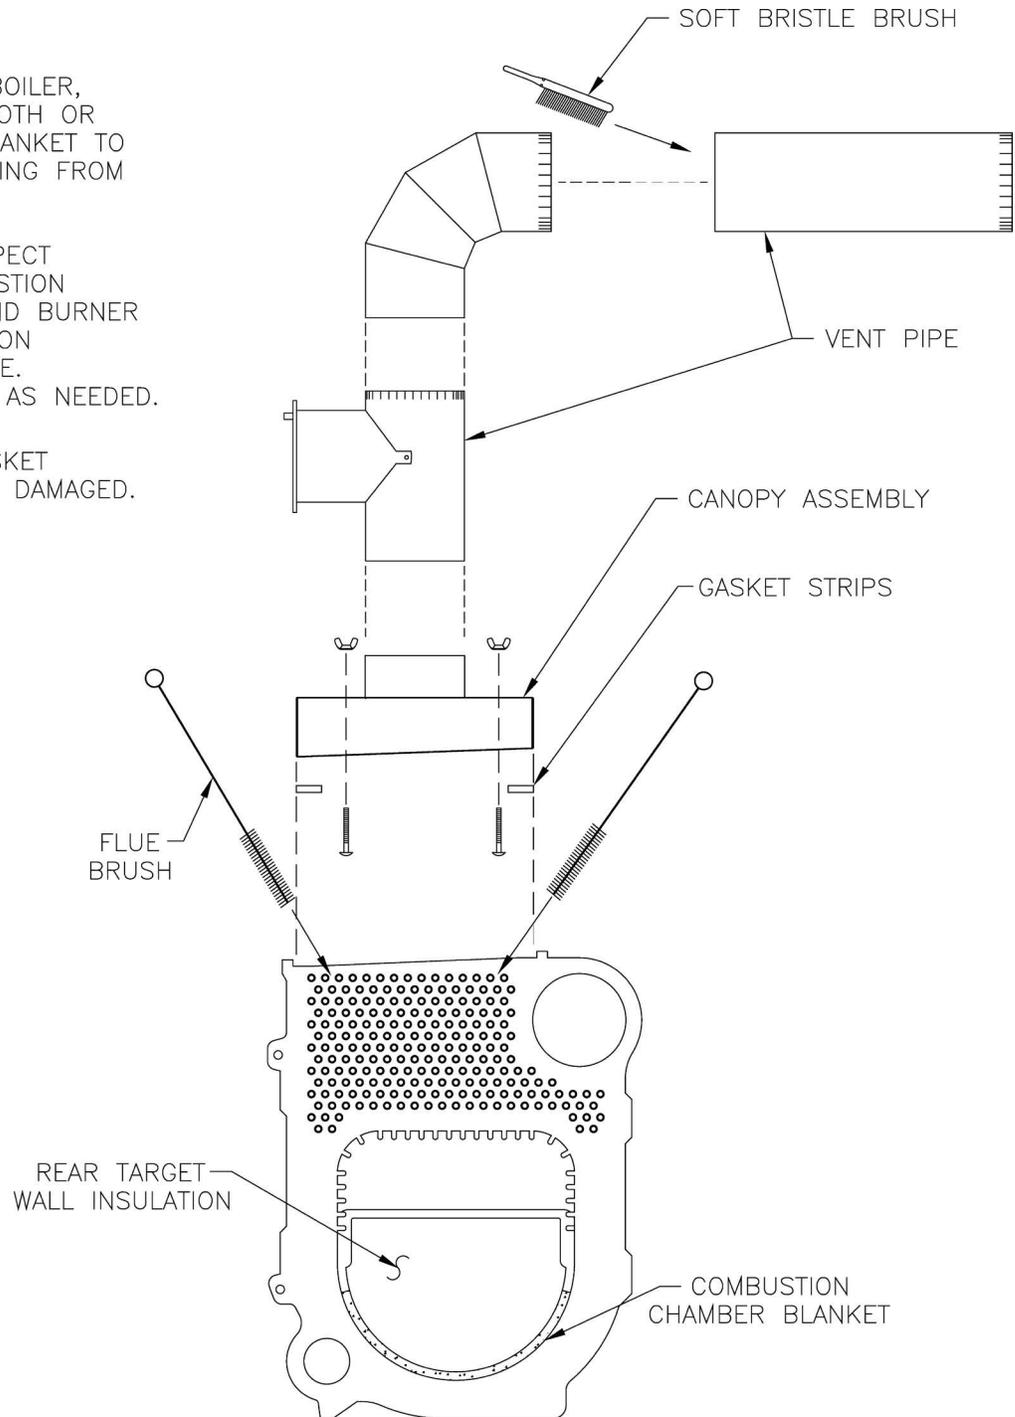

Figure 11-1: Cleaning of Boiler Flueways
A. CLEAN THE FLUEWAYS (See Figure 11-1).
2. For access to combustion chamber remove two (2) $\frac{5}{16}$ in. - 18 cap screws, one on the right ($1\frac{1}{4}$ in. long) and one on the left ($3\frac{1}{4}$ in. long). If boiler is equipped with flexible fuel line(s), swing door open.